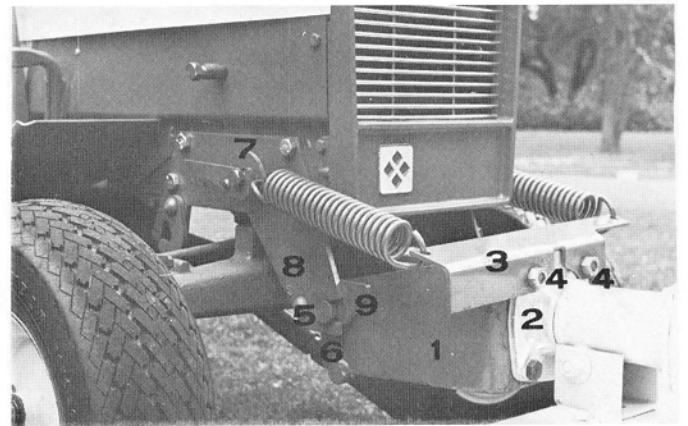

FIGURE 9
Mount the Gear Housing to the adapter Weldment (1, Figure 9). There are two studs on the face of the Gear Housing, these go in the holes in the weldment **opposite** the protruding strap.
Mount the two studs protruding through the weldment to the top two holes of the Swivel Casting (2, Figure 9) on the front mounted attachment. (40" Rotary Mower Illustrated). Mount the Spring Bracket as shown, (3, Figure 9).
There is a "Dog Clutch" in the attachment Safety Clutch which must engage a "Dog" in the Gear Housing. When mounting to the attachment, it may be necessary to turn the stub shaft on the rear of the Gear Housing until they mesh. Then put the nuts (4, Figure 9) on the studs and insert the bolts in the bottom two holes, and tighten.
There are two Attaching Pins on the Adapter Weld- until you can just hang the attachment on the lower lip of the slot in the bracket. (9, Figure 9).
Attach the Springs and Latches as shown in Figure with Attachment lifted to high position. Be sure you install so latches (7, Figure 9) are on the outside, as shown.
*(Note: Front Attachment Brackets (8, Figure 9) are part of the Front Drive Kit. They must be attached **before** any of the above steps are taken. Install by bolts and nuts provided.)